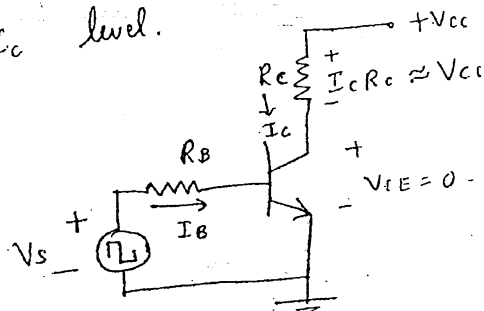

Fig: 2
- * In figure 2, V_s is positive. It biases Q_1 ON to the maximum possible I_c level.
From figure 2, I_B is a constant quantity